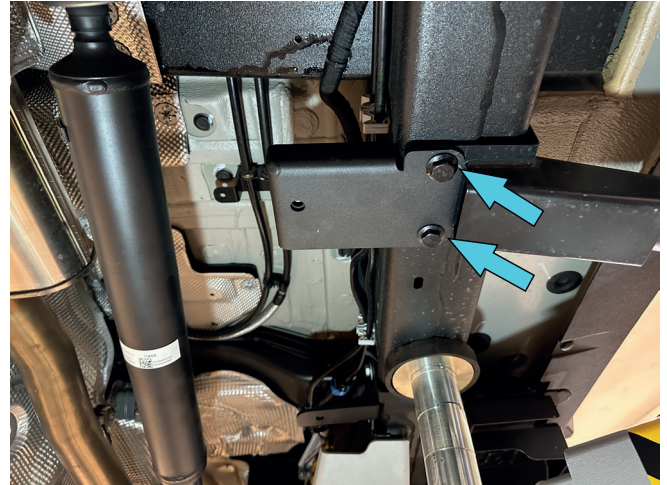

Fig. 11
11. If factory side steps are pre-installed on vehicle, install bracket 1 (item 5) over factory side step brackets as shown in fig.11. Fix bracket 1(item 5) using factory fittings.